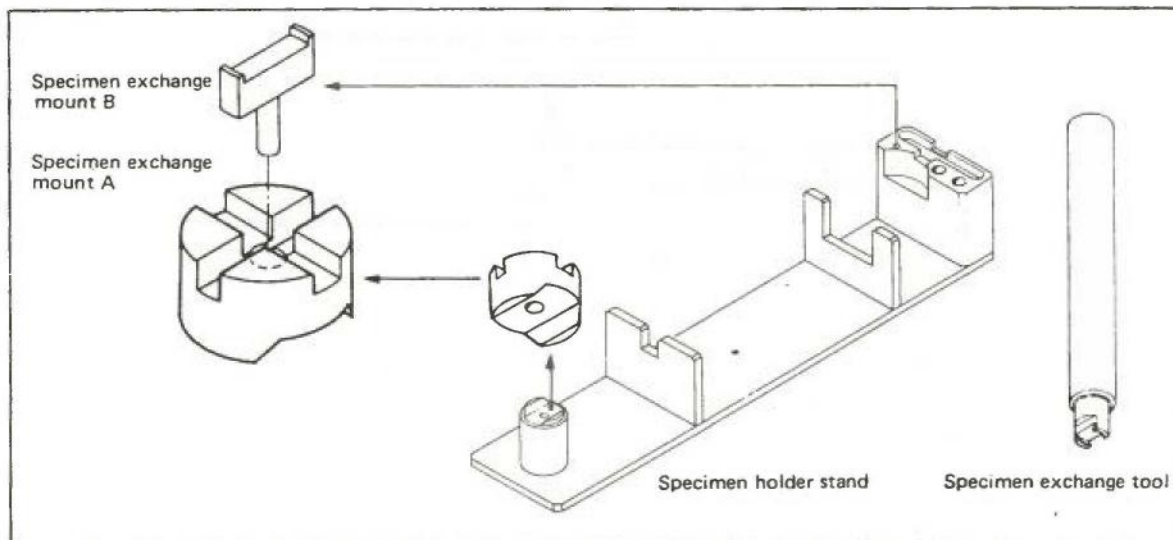

Fig. 4.2 Specimen exchange mounts
1. Remove the specimen holder stand from the specimen holder box and mount specimen exchange mount B on specimen exchange mount A (see Fig. 4.2).